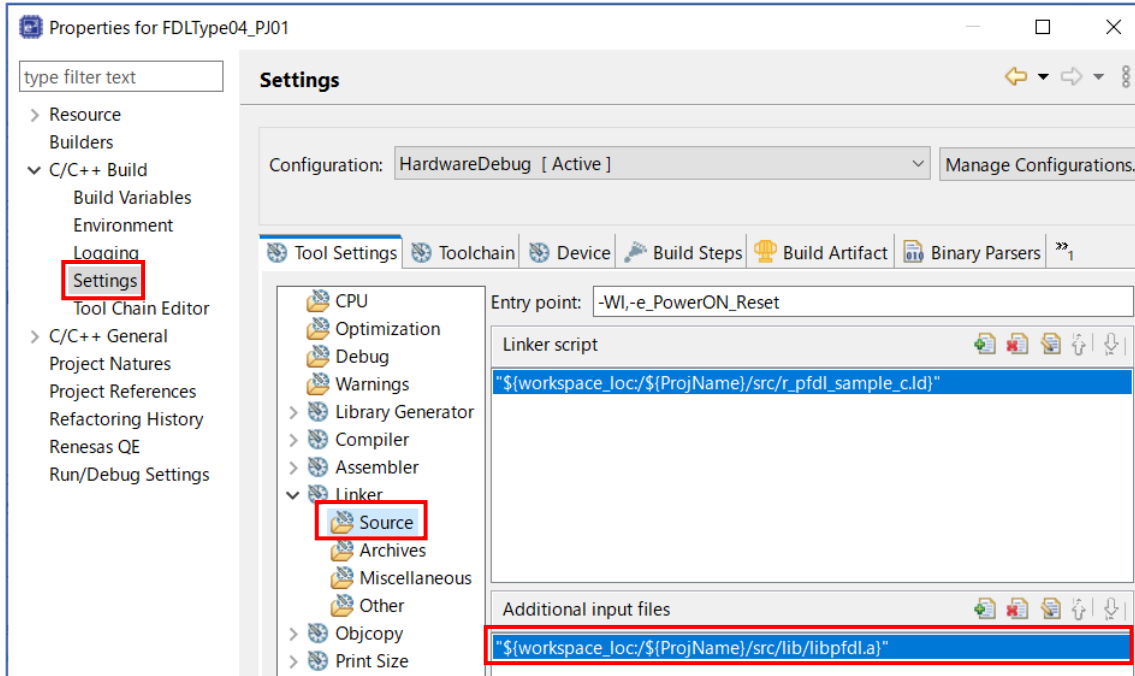

Figure 6-23. Specifying the Library File (LLVM)
- LLVM: Click the right mouse button for the project in a tree, and select “Properties”. Register the file path of the data flash library file “libpfdl.a” in the “Additional input files” field on the screen displayed in “C/C++ Build” [Settings] – “Linker” [Source]. (Figure 6-23)